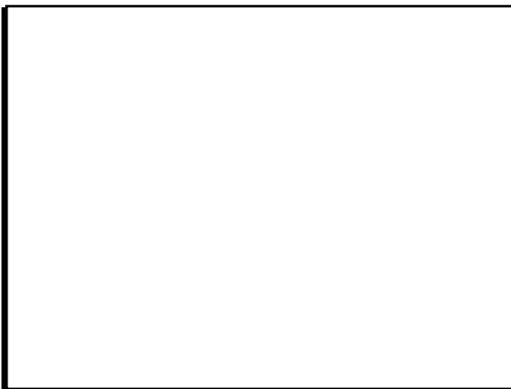

Figure 10 Trigger Installed on a Points Ignition Engine.
1. Trigger plate must be positioned at approx. 2:00 with lip facing away from engine case (Figure 10).